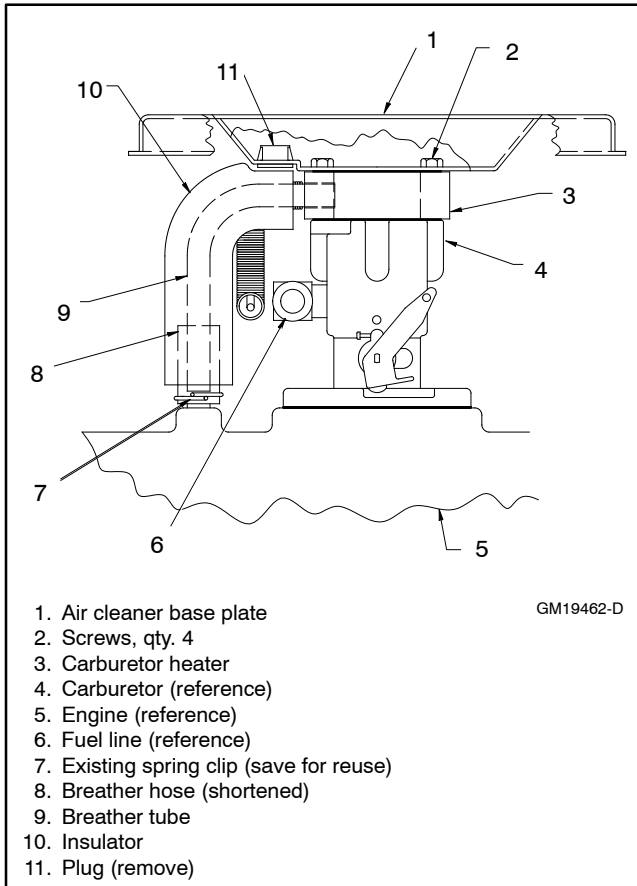

Figure 3 Carburetor Heater (if equipped), Models 14RESA(L)
9. Remove the plug from the opening in the air cleaner base. See item 11 in Figure 3.